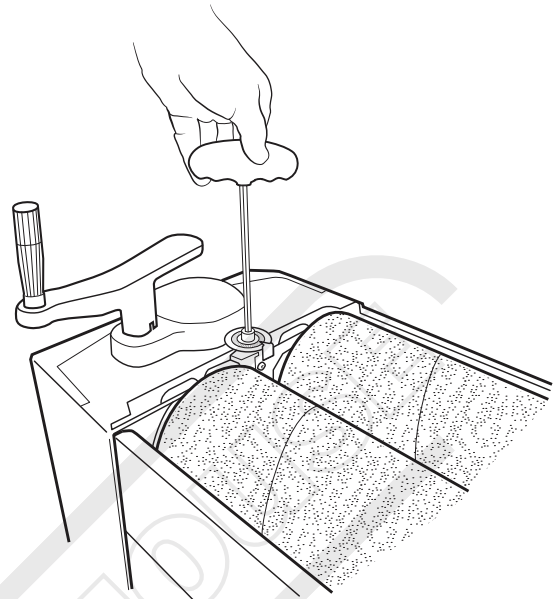

FIG. 11
2. Using the 6mm wrench, rotate the cap screws, indicated in Fig. 11, on either end of the rear drum.